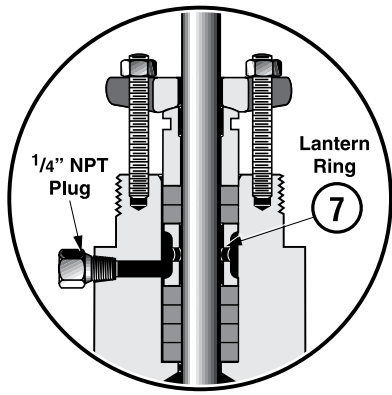

Figure 5 – Lubricator Connection (Optional)
- J. If a leak detection connection was installed, connect it on the lateral NPT port in the bonnet. If not, ensure that the 1/4" NPT plug remained in place (Figure 5).